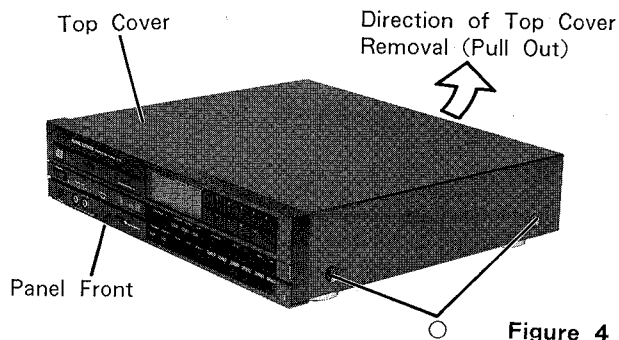

Figure 4
- (1) Remove seven screws marked "O" as shown Figures 4 and 5.
- (2) Pull out the top cover in the arrow direction as shown in Figure 4.